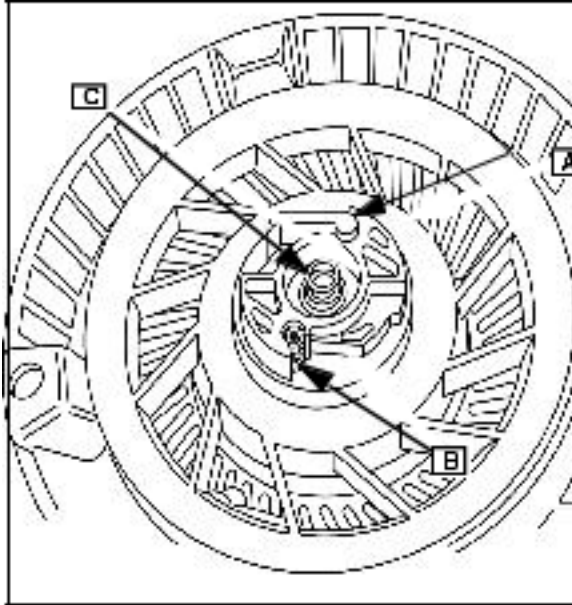

Fig. 26
4. Install pawls (A), pawl springs (B), and brake spring ([C] Fig. 26).